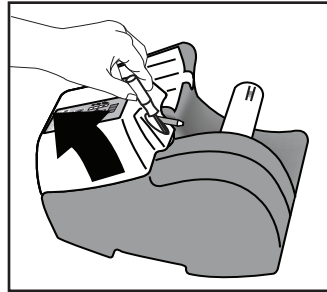

Figure 15
2. Open Belt Cover with a slotted or Phillips screwdriver. (See Figure 15)